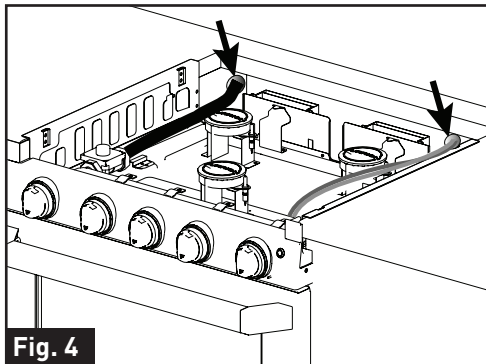

Fig. 4
4. Connect a propane supply line to the range oven in the upper left rear corner of the cabinet. Connect a positive 12V power supply wire and a 12V ground wire to the appliance in the upper right rear corner of the cabinet. (Fig. 4)